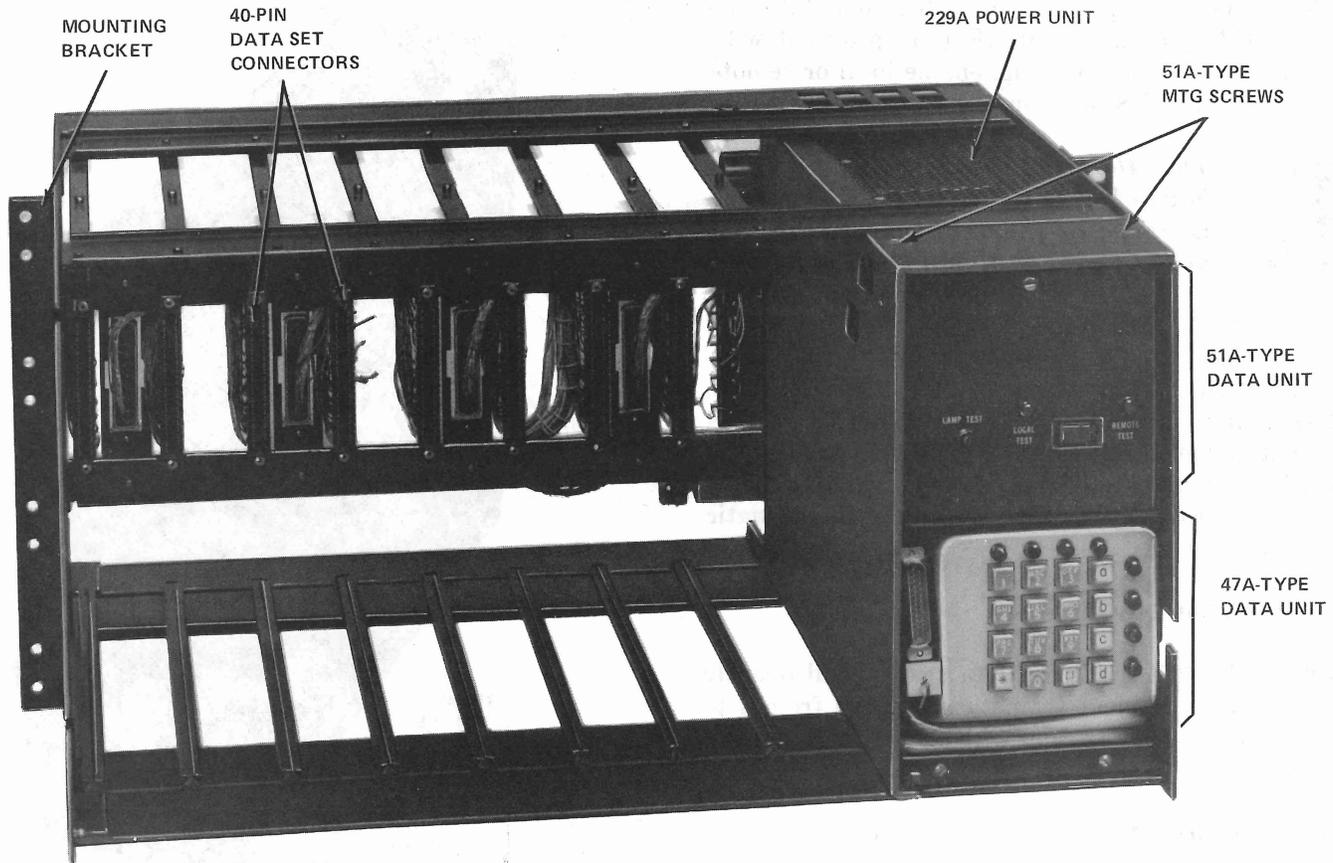
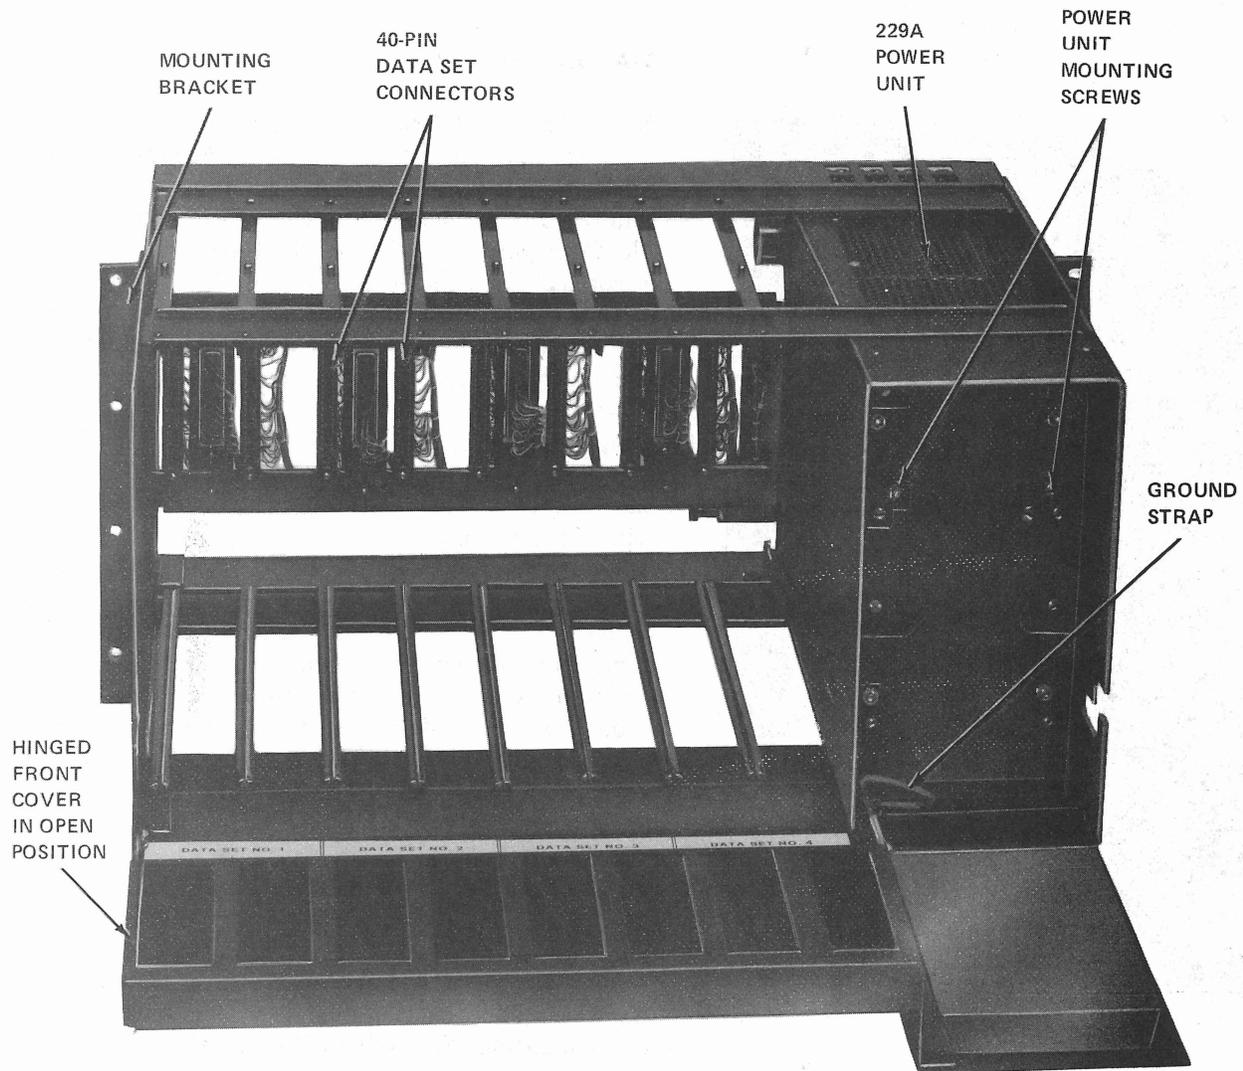

Fig. 4—57A-Type Data Mounting With Front Cover Removed
Fig. 5—57B-Type Data Mounting With Front Cover Open
2.03 The 57A-type data mounting (Fig. 4) contains a test unit (which is comprised of a 51A-type data unit and a 47A-type data unit) and is approximately 51 cm wide, 27 cm high, and 42 cm deep (21 in. wide, 10.6 in. high, and 16.6 in. deep). It mounts in a KS-20018-L20 cabinet and weighs about 17 kg (37 lb) without the 229A power unit. The 57B-type data mounting (Fig. 5) has the same physical dimensions as the 57A-type data mounting
2.08 The 51A-type data unit (Fig. 4) is 13 cm wide, 13 cm high, 7 cm deep (5.2 in. wide, 5 in. high, 2.8 in. deep), and weighs about 1 kg (2.5 lb). This data unit contains a LOCAL TEST-REMOTE TEST switch, test indication LEDs, and a LAMP TEST switch for testing all LEDs in the cabinet.
2.09 The 47A-type data unit (Fig. 4) is approximately 11 cm wide, 6 cm high, 11 cm deep (4.5 in. wide, 2.5 in. high, 4.5 in. deep), and weighs